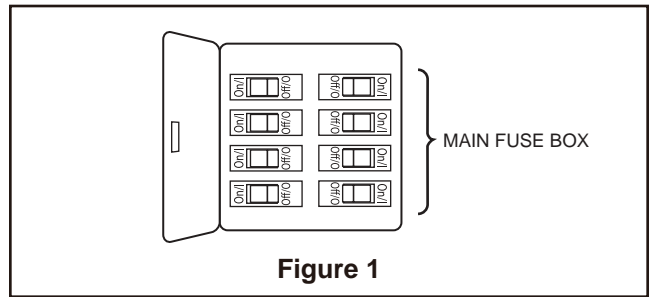

Figure 1
- 1. Restore electrical power to the outlet box by turning the electricity on at the main fuse box (Figure 1).